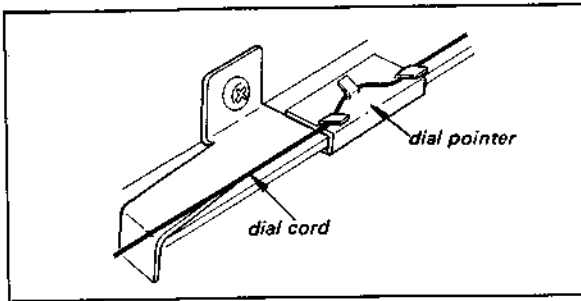

Fig. 2-7. Dial pointer installation
- Put the dial pointer on the cord as shown in Fig. 2-7, and tune the set to the local fm station. Move the dial pointer to the position where the dial indication coincides with the local station carrier frequency.